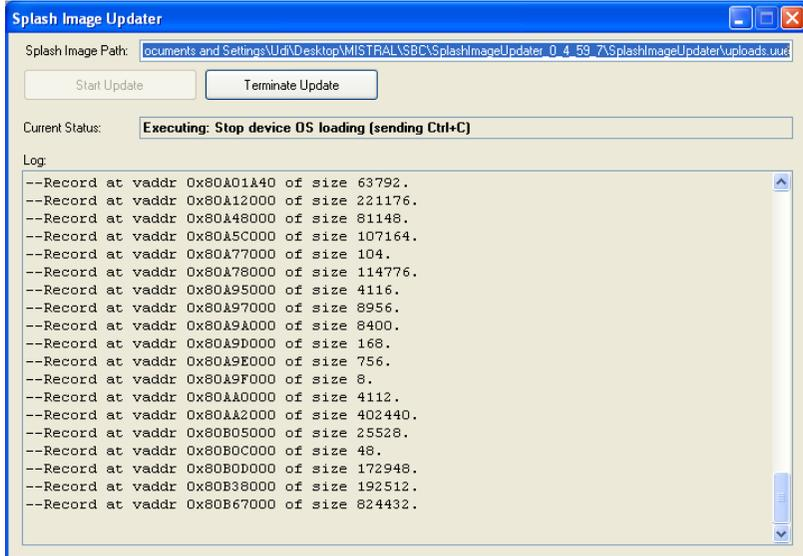

Figure 122:
25. After Reset , the update will continue as shown in Figure 122.